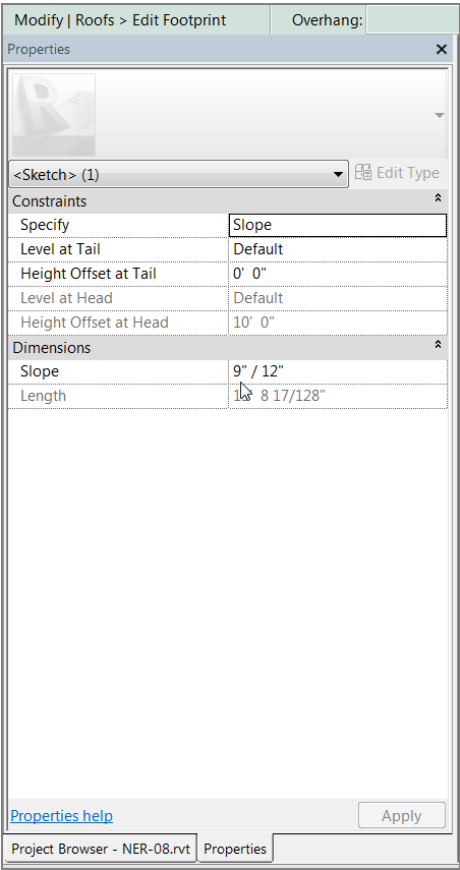

FIGURE 7.63: Changing the values of the slope arrows
8. Under Dimensions, keep the slope at 9" / 12" (750/1000mm) (see Figure 7.63).